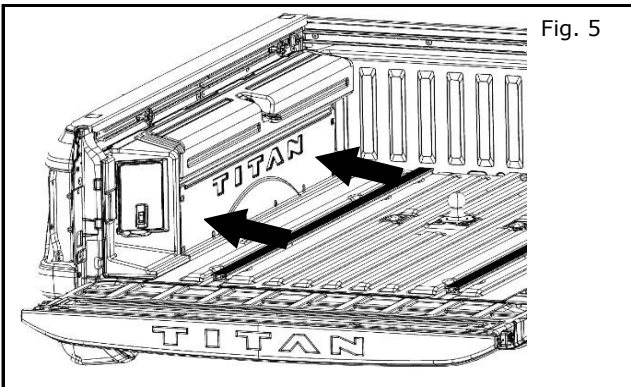

Fig. 5
- 5) Push bin assembly tight to side of wall of truck box and align fastener holes with M8 and M6 rivnuts. Ensure fixed tie down loops slide through assembly cutouts. (Figure 5).